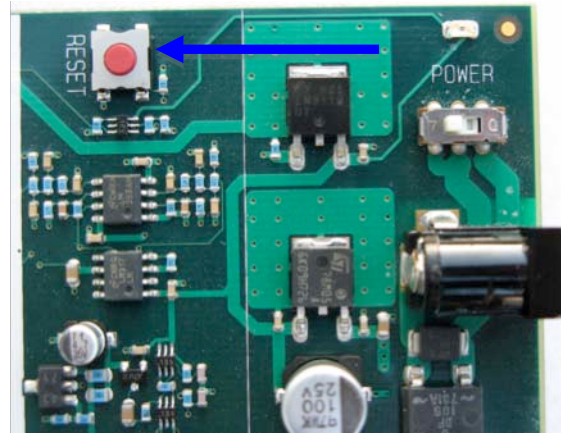

Figure 4.32 Picture emphasizing the RESET button on the STK500 evaluation board.
4.3.5 Push the RESET button on the STK500 board shown in Figure 4.32 to restart the program installed in the flash memory of the ATmega8515L. Now push one of the push-button switches. The results from these actions should yield a HyperTerminal window that looks like the one in Figure 4.33. If the results are not correct or seem to be garbled, refer to Troubleshooting section A.3 of the appendix; the firmware might need to be updated [16].